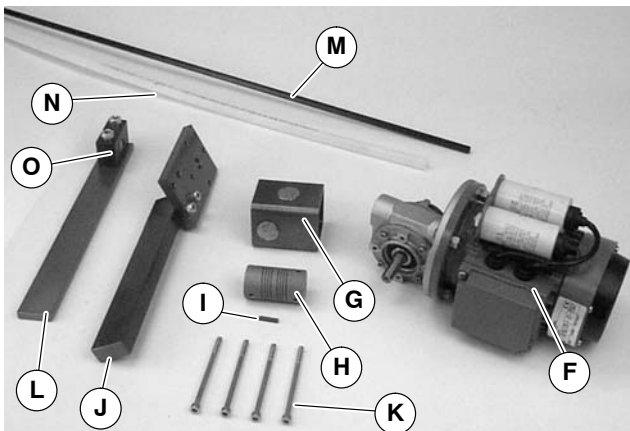
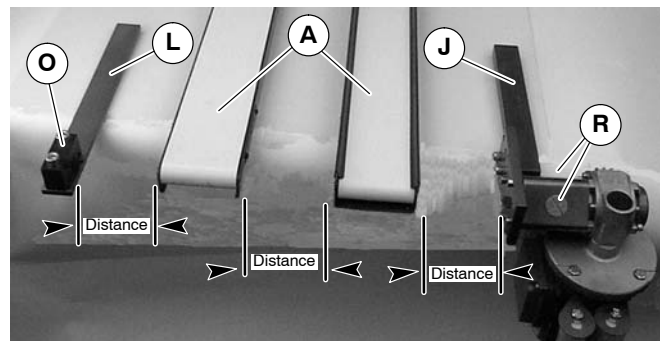

Figure 2
Figure 8
1. Gather components (Figure 2)
- Measure distance between motor mounting plate (Q) and bearing block (O).
- Cut hex shaft (M of Figure 2) to measured distance plus 2-1/8" (54 mm).
- Align conveyors between gearmotor support assembly (J of Figure 8) and bearing support assembly (L).
NOTE: Do not secure the conveyors (A of Figure 8) to mounting surface.
11. Cut shaft cover (N of Figure 2) into pieces to match each distance (Figure 8) minus 1/16" (1.5 mm).
12. Remove inspection plugs (R of Figure 8).